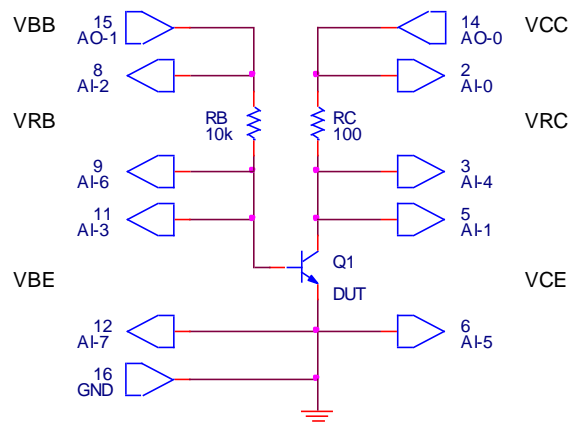
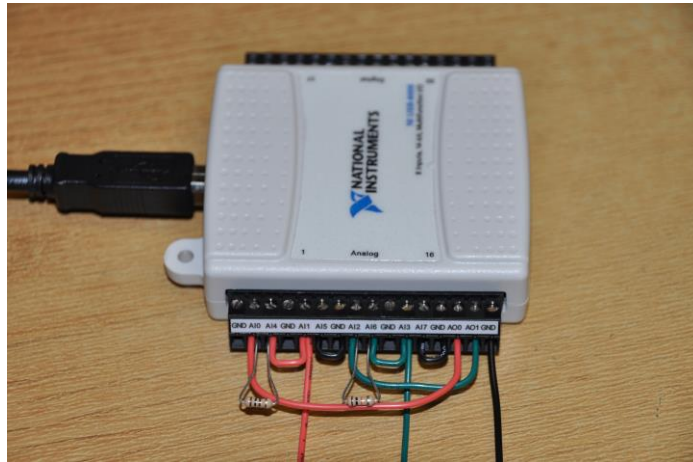
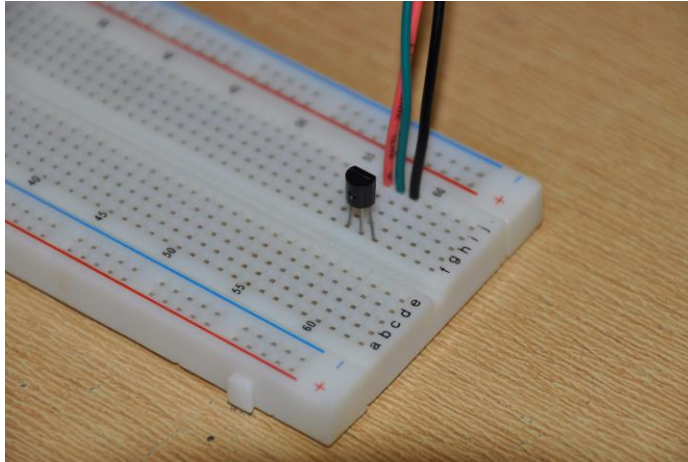

Figure E1.2b
Figure E1.2c
Figure E1.2d
The LabVIEW VI is designed to use a National Instruments NI-USB-6009 DAQ. All four differential analog inputs and both analog outputs are used to implement the BJT curve tracer. All of these terminals are on the analog connector block of the DAQ, pins 1-16. The overall connections are shown in the schematic of Fig. E1.2b, with the pin numbers shown for each terminal.
The best approach to constructing the circuit of Fig. E1.2b is to place as many as possible of the connections on the DAQ analog connector block itself, along with the current sensing resistors RC and RB, and then take the DUT connections off of the connector block to a solderless breadboard using three longer jumper wires. This will reduce the number of wires that need to go between the DAQ and the solderless breadboard, and also make it easier to switch around the DUT connections for different devices. Figure E1.2c shows one way of making these connections. The base circuit uses the green wire; the collector circuit uses the red wire, and the grounded emitter uses the black wire. These connections now effectively make the NI-USB-6009 into a three-terminal BJT curve tracer.
Next, locate the 2N3904 npn BJT that was used in Procedure 1, and insert it into the solderless breadboard. Connect the emitter (black), base (green), and collector (red) leads from the DAQ analog connector block to the 2N3904 BJT as shown in Fig. E1.2d. The device is now ready to measure.
If it is not already done, set up the NI-USB-6009 DAQ and wire up its analog connector block as described in Procedure 2 to create the BJT curve tracer front end circuit of Figs. E1.2b and E1.2c, using $R_B = 10 \text{ k}\Omega$ and $R_C = 100 \Omega$. Insert a 2N3904 npn BJT into the solderless breadboard and connect it to the curve tracer front end circuit as shown in Fig. E1.2d. Since we are expecting a β_F value of around a few hundred, R_B is selected to be about one hundred times the size of R_C .
Set-Up If it is not already done, set up the NI-USB-6009 DAQ and wire up its analog connector block as described in Procedure 2 to create the BJT curve tracer front end circuit of Figs. E1.2b and E1.2c, using $R_B = 10\text{ k}\Omega$ and $R_C = 100\ \Omega$. Insert a 2N3904 npn BJT into the solderless breadboard and connect it to the curve tracer front end circuit as shown in Fig. E1.2d.
Set-Up If it is not already done, set up the NI-USB-6009 DAQ and wire up its analog connector block as described in Procedure 2 to create the BJT curve tracer front end circuit of Figs. E1.2b and E1.2c, using $R_B = 10 \text{ k}\Omega$ and $R_C = 100 \Omega$. Insert a 2N3904 npn BJT into the solderless breadboard and connect it to the curve tracer front end circuit as shown in Fig. E1.2d.
- Set-Up** If it is not already done, set up the NI-USB-6009 DAQ and wire up its analog connector block as described in Procedure 2 to create the BJT curve tracer front end circuit of Figs. E1.2b and E1.2c, using $R_B = 10\text{ k}\Omega$ and $R_C = 100\ \Omega$. Insert a 2N3904 npn BJT into the solderless breadboard and connect it to the curve tracer front end circuit as shown in Fig. E1.2d.
Set-Up	<p>If it is not already done, set up the NI-USB-6009 DAQ and wire up its analog connector block as described in Procedure 2 to create the BJT curve tracer front end circuit of Figs. E1.2b and E1.2c, using $R_B = 10\text{ k}\Omega$ and $R_C = 100\ \Omega$. Insert a 2N3904 npn BJT into the solderless breadboard and connect it to the curve tracer front end circuit as shown in Fig. E1.2d.</p> <p>If it is not already running, launch LabVIEW and open the BJTCurveTracer.vi. Click on the Run button to start the VI. Set up the base step generator to scan from 0.5 V to 1.0 V in 5 points, giving a step size of 0.125 V/step. Set up the collector step generator to scan from 0.0 V to +5.0 V in 41 points, giving a step size of 0.125 V/step. Set the delay time to 5 ms or greater. This should give 205 total points. These are the same settings as in Procedure 2.</p>